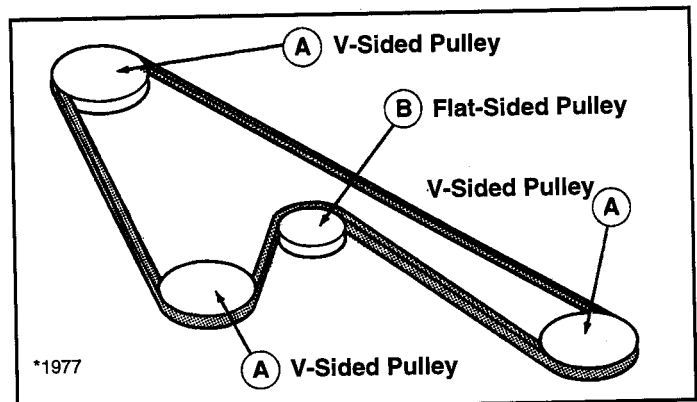

Figure 40. Mower Arbor Belt Routing
7. Install new belt as shown in Figure 40. Make sure that V-side of belt runs in arbor pulley grooves and flat side of belt runs against idler pulley.